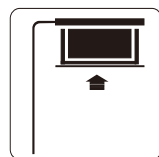

Figure 14
3. Turn the switch to position "↑" to lower the screen; it will go up into the metal casing. When it is all the way up, it will stop automatically (Figure 14).